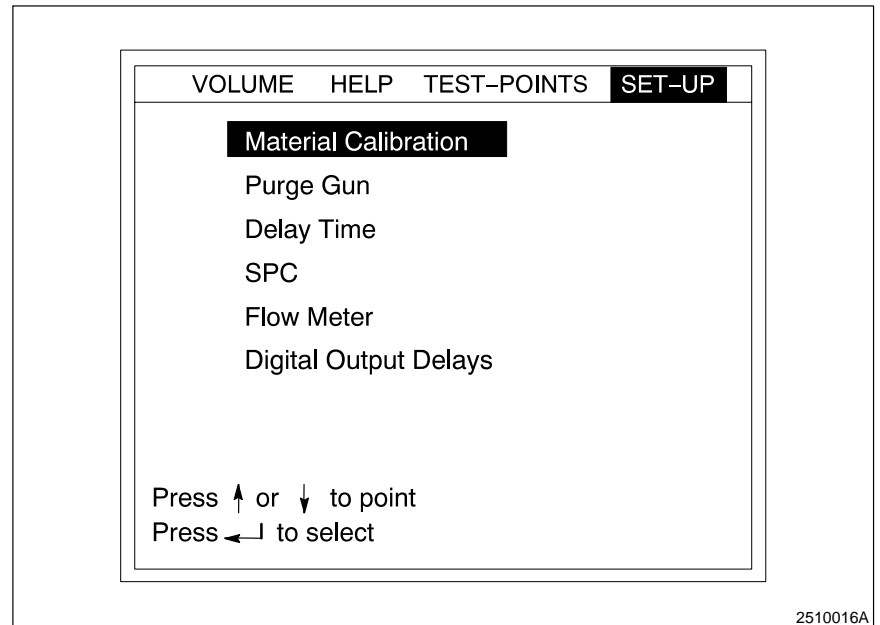

Fig. 4-5 SET-UP Screen
See Figure 4-5. Use the SET-UP screen to set the dispensing rate parameters. Refer to Table 4-2 for a description of each parameter.
3. If dispensing did not start or stop at the correct time, adjust the Gun On or Gun Off delay times. See Figure 4-5. From the SET-UP screen, highlight the Delay Time prompt. Enter Gun On and Gun Off delays from 0–500 msec.